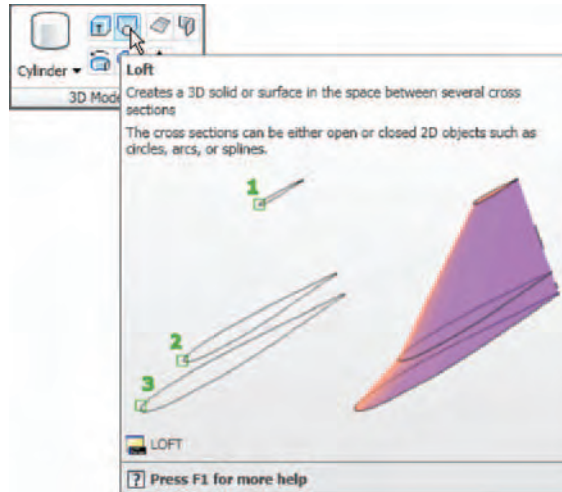

Fig. 12.42 Selecting the **Loft** tool from the **Home/3D Modeling** panel
3. Call the **Loft** tool with a *click* on its tool icon in the **Home/3D Modeling** panel (Fig. 12.42).